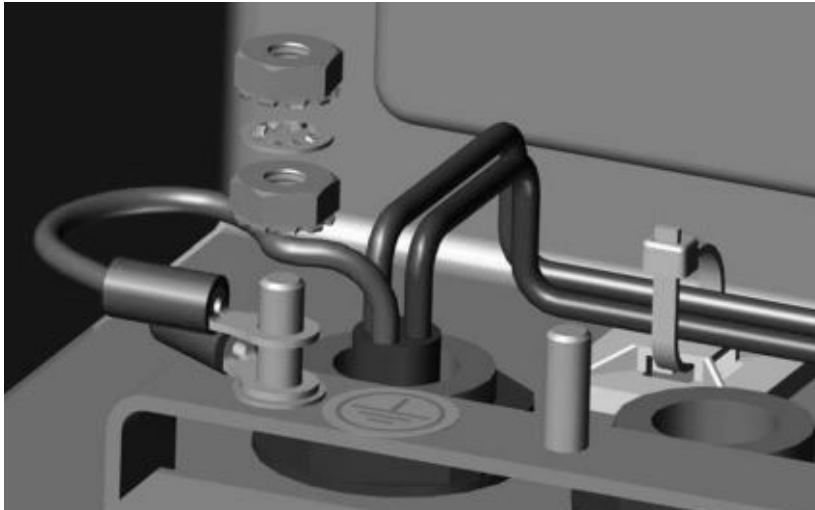

Figure 2-18. DC Grounding Stackup
1. Run three (not included) 22-16 AWG wires (5-10 mm diameter) up through the cord grip, see Figure 2-18.